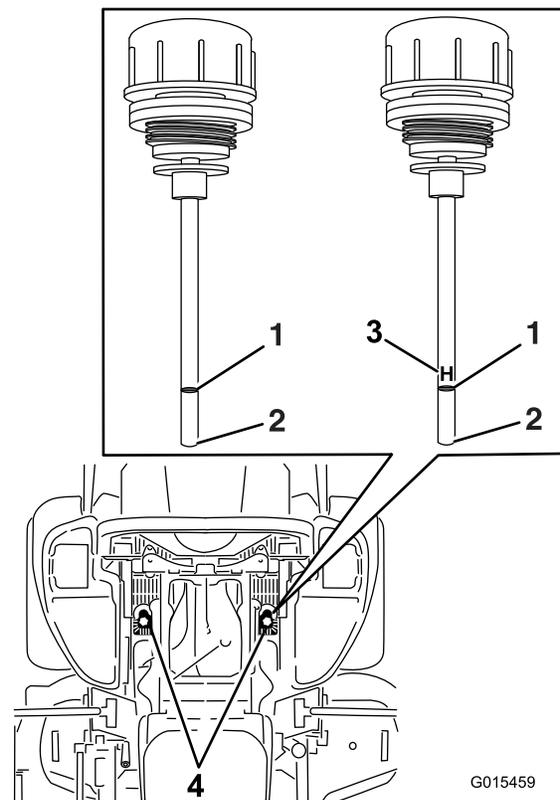

Figure 91
5. Clean the area around the dipsticks of hydraulic-system reservoirs (Figure 91).
6. Remove 1 dipstick from the hydraulic reservoir (Figure 91).
8. Remove the dipstick and look at the end (Figure 91).